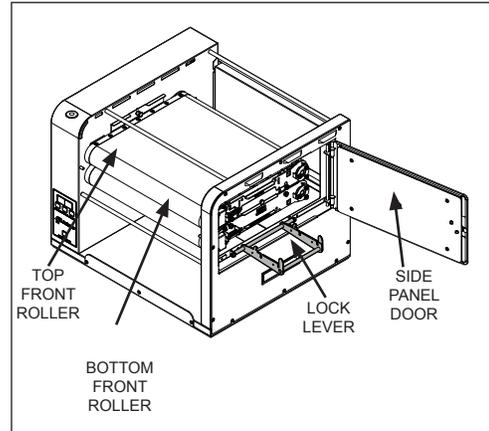

Figure 2.
5. Unlock the side panel door using a screwdriver, coin, or similar tool. Open the side panel (Figure 2).
4. Restore tension on the bottom belt by pushing UP and OUT (Figure 2)
6. Restore the tension on the top belt by pushing DOWN and OUT (Figure 2)